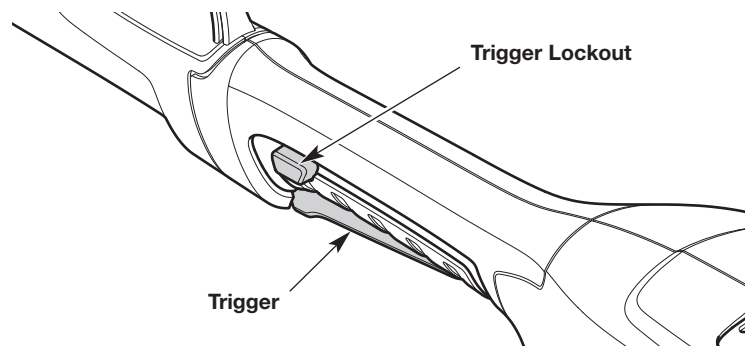

Fig. 12
2. Press and hold the trigger lockout (Fig. 12).
3. Continue to hold the trigger lockout. Squeeze and hold the trigger to start the unit (Fig. 12).
1. Release the trigger (Fig. 12).